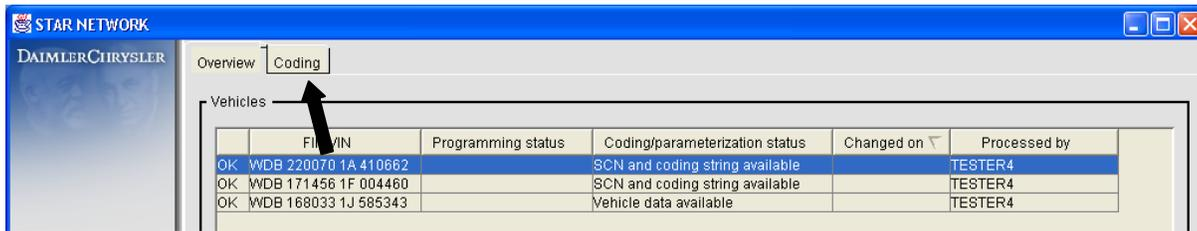

Figure 5
1. Click on 'Coding' button on the top of the window (Figure 5).